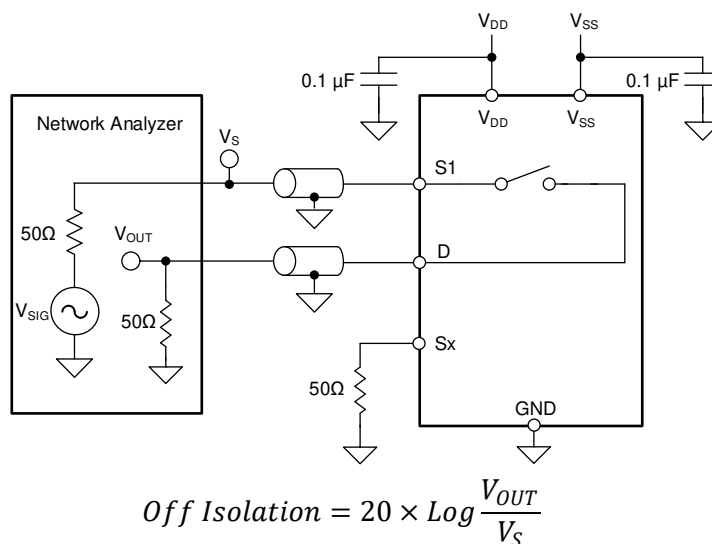

Figure 8-10. Off Isolation Measurement Setup
Off isolation is defined as the ratio of the signal at the drain pin (D) of the device when a signal is applied to the source pin (Sx) of an off-channel. Figure 8-10 shows the setup used to measure, and the equation used to calculate off isolation.